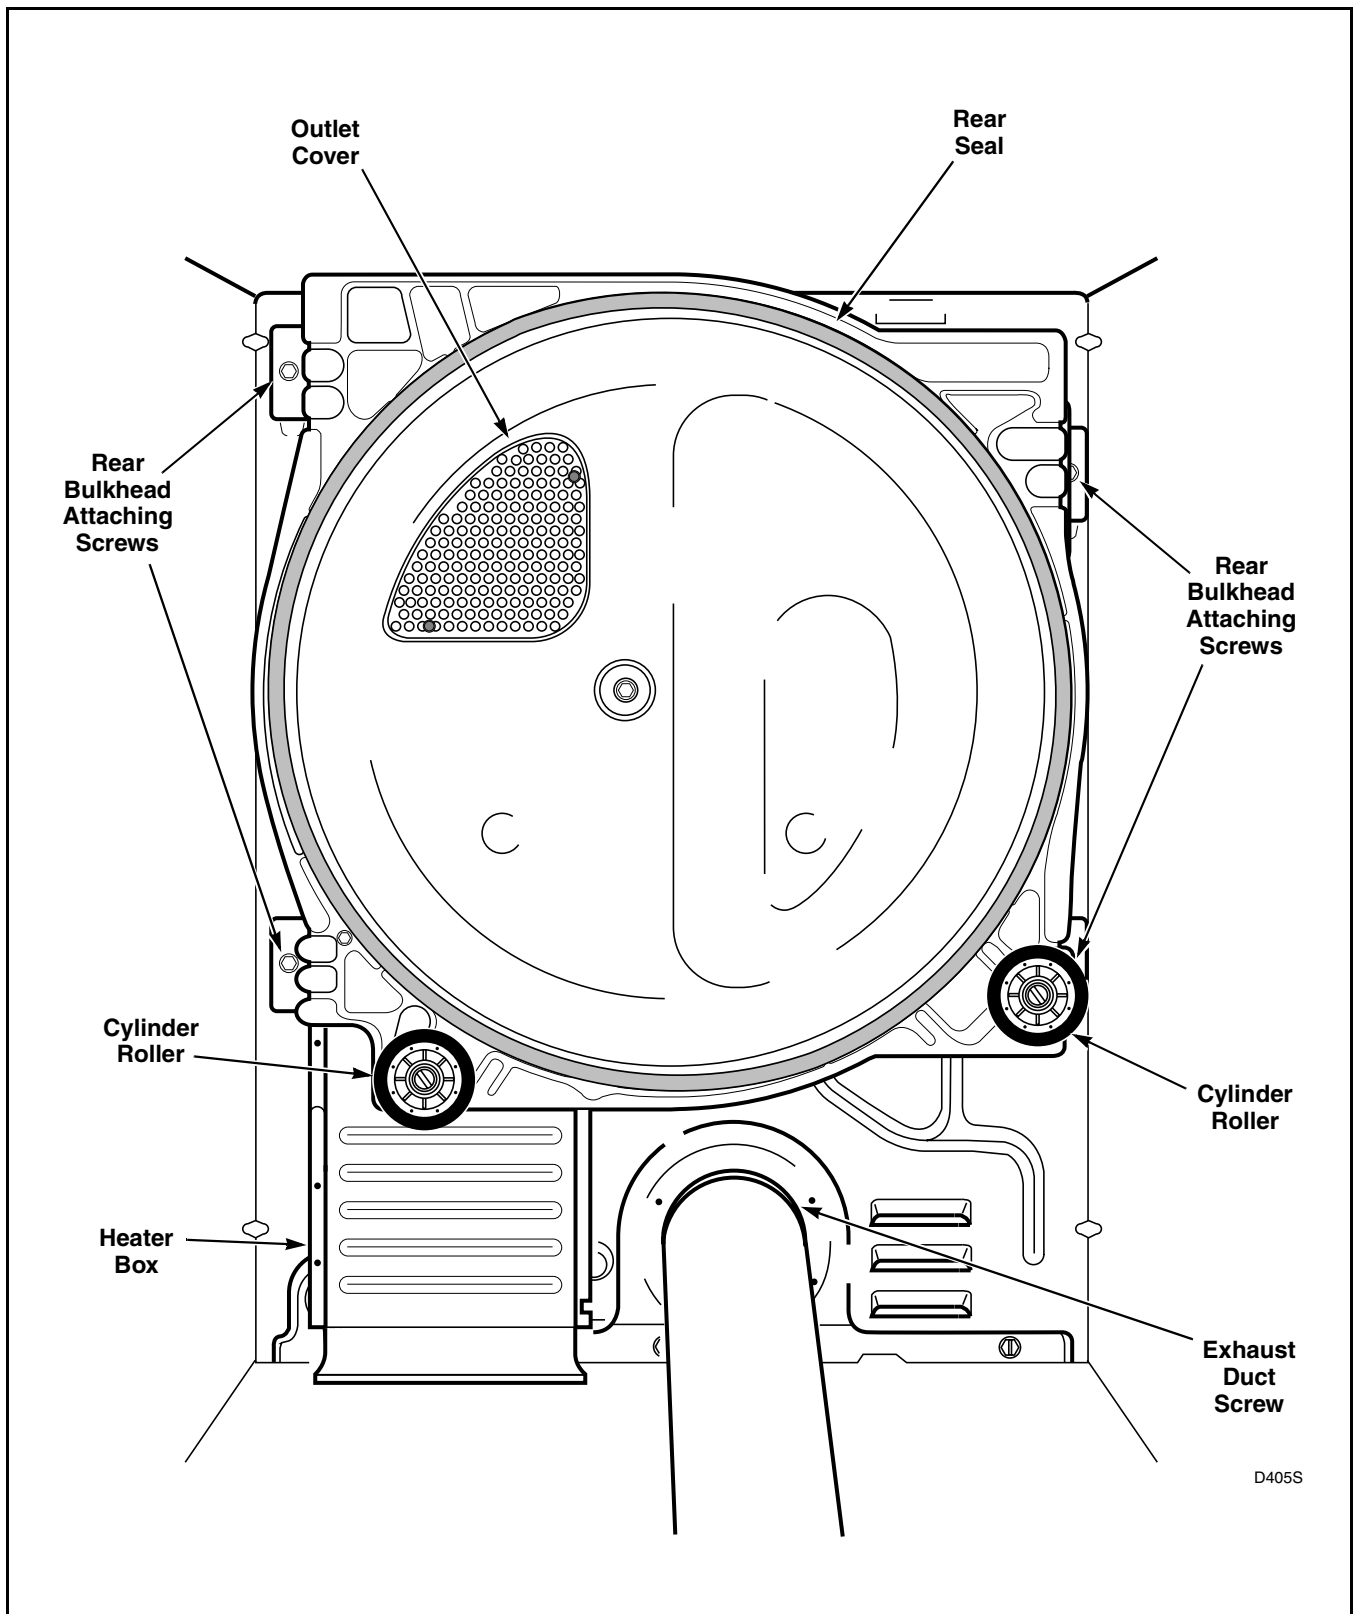

Figure 35
- j. Pull rear cylinder seal from flanged edge of bulkhead. Refer to *Figure 35*.
- Open door and remove two screws holding outlet cover to rear bulkhead. Refer to *Figure 35*.
- k. While supporting bulkhead, remove the four screws holding rear bulkhead to dryer cabinet, then lift complete assembly out of dryer. Refer to *Figure 35*.